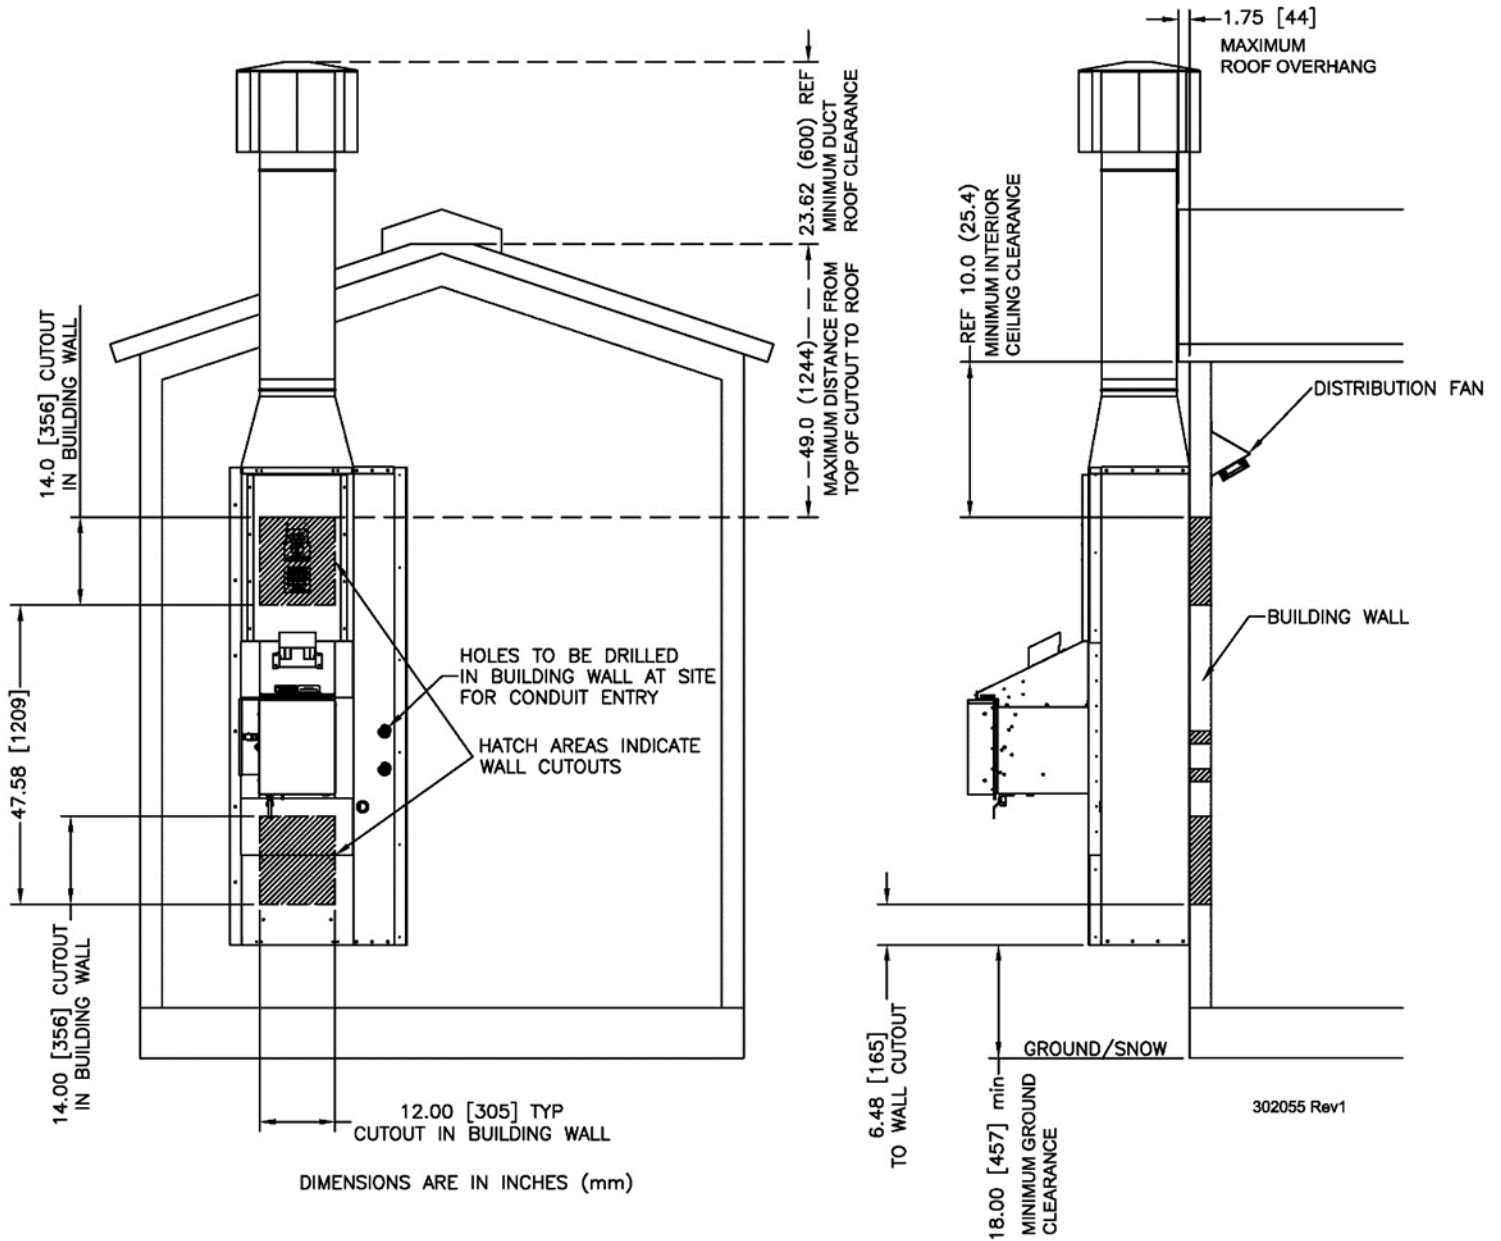

Figure 1 - Building cutout dimensions
Correct positioning of the wall openings is the most critical step in HRS installation. Ensure that your chosen cutout positions meet all constraints listed below before proceeding with the cutting process. Refer to Figure 1 throughout this section.
One or more cable/conduit wall cutouts will be required for system wiring. It is recommended to make these cable entry holes during installation Section 15. Example cable entries are shown in Figure 1 below.
- One or more small wall cutouts are required for these wiring connections; see Figure 1 in Section 6. These holes should be sized appropriately for the customer's system wiring. Ensure these holes are positioned so they are protected within the actuator cover (Item H1, Figure 8) once installed.